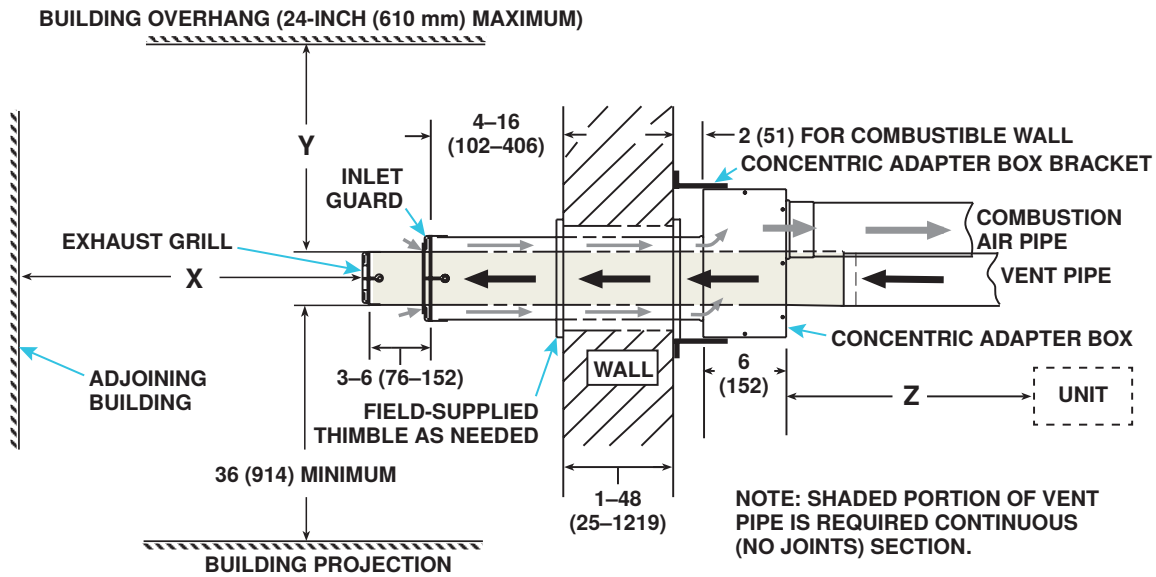

Figure 14. Option CC6 Installation (Refer to Table 10)
4. Secure longer angles on concentric adapter box brackets (see Figure 14) to concentric adapter box.
| Unit Size(MBTUh)                 | Dimension* (See <a href="#">Figure 14</a> ) |          |          |
- Position inlet guard over end of combustion air pipe in accordance with Figure 14.
- a. Position exhaust grill over end of vent pipe in accordance with Figure 14.
8. Connect outside section of combustion air pipe to concentric adapter box (see Figure 14):
- (1) Bracket length from box to wall
- (2) Plus wall thickness
- (3) Plus 4–16 inches (102–406 mm) beyond wall
9. Secure concentric adapter box to wall (see Figure 14):
- b. Secure short angles of concentric adapter box brackets (see Figure 14) to wall. Ensure that box, combustion air pipe and vent pipe all have slight downward slope toward wall.
11. Verify compliance with Figure 14 and with all specifications and requirements listed in this manual.